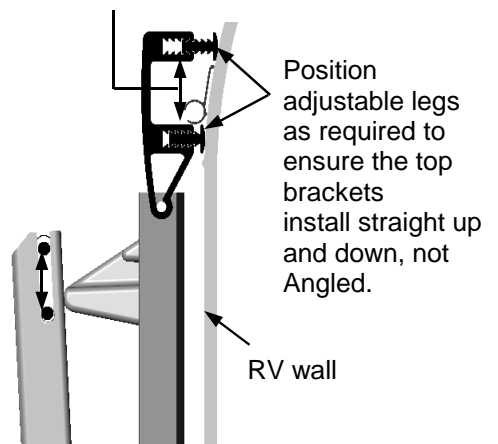

figure 8
A. Remove the plastic wrap from the motorized arm assembly and position of upper bracket at the awning rail. The top bracket should straddle the awning rail and be positioned fully up against the bottom of the rail (see figure 8). The brackets should be straight up and down (not angled) for proper operation. (See below for your style of bracket)